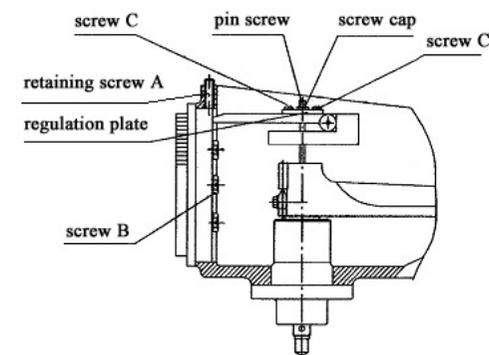
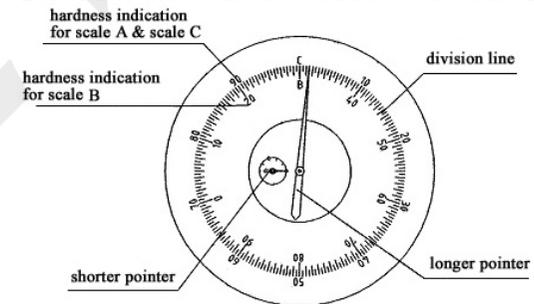

Figure 7
Figure 8
- 9 It may happen that the indication dial gauge (23) is loose during transportation. In this case, first loosen the retaining screw A on machine body, remove the indication dial gauge, tighten the three screws B at the back of the dial gauge and put the dial gauge on again (see Fig 7). Turn the knurled chrome-plated shell of indication dial gauge (23) to make "C" point right on the top. Should the larger pointer not point "C" as shown in Fig 8, it shall be adjusted as follows: loosen the screw cap, adjust the pin screw (see Fig 7) until the larger pointer points to the "C" (see Fig 8), and then retighten the screw cap.
- 10 If the reading error exceeds the allowance due to transportation, regulate as follows (see Fig 7):
- ◆ If slight error is found for scale B, it may be due to the steel ball. Replace the steel ball inside the steel ball indenter and try again. Put on top cover (22) and rear cover (18).
First of all, spend some time on studying the functions of every parts of the indication dial gauge, where there are hardness readings, division lines, longer pointer, shorter pointer, etc. (see Fig 8)